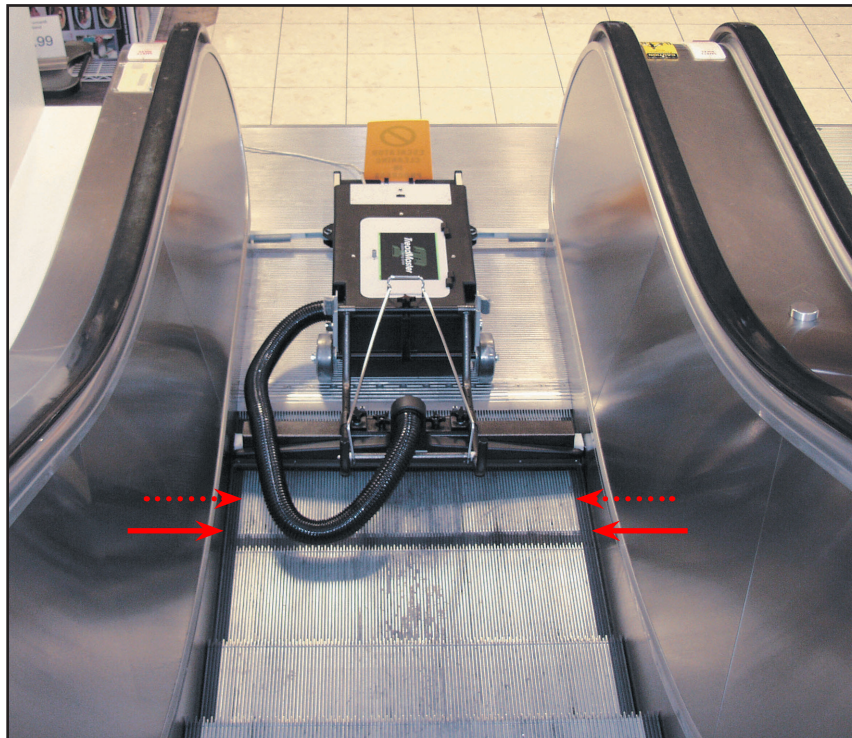

Figure 1. Accurate Measurements Needed Before Ordering Brush and Head Assembly
To properly measure the escalator or moving sidewalk, refer to Figure 1 and follow these guidelines:
1. With a measuring device, measure the horizontal distance from side wall to side wall, on the bottom step (see solid arrows in Figure 1).
If safety brushes are installed on the escalator or moving sidewalk, measure the horizontal distance from brush tip to brush tip, on the bottom step (see dashed arrows in Figure 1).